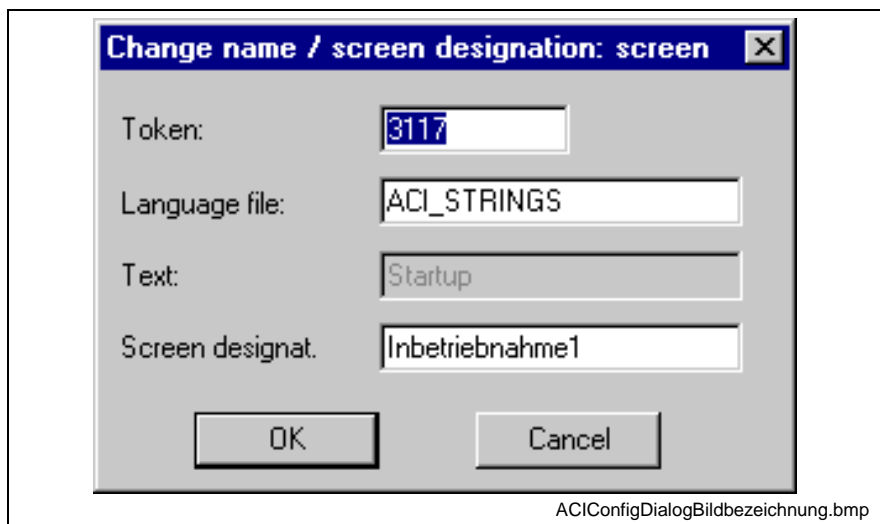

Fig. 5-6: Dialog box for entering/modifying the screen designation
- Fig. 5-6: Dialog box for entering/modifying the screen designation 5-8